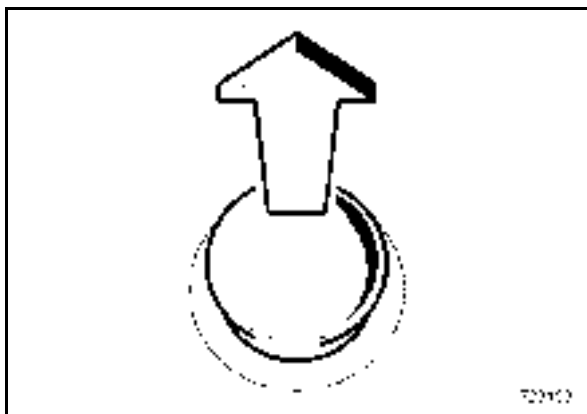

Fig. 64
- If necessary unlock the emergency stop switch (Fig. 64).